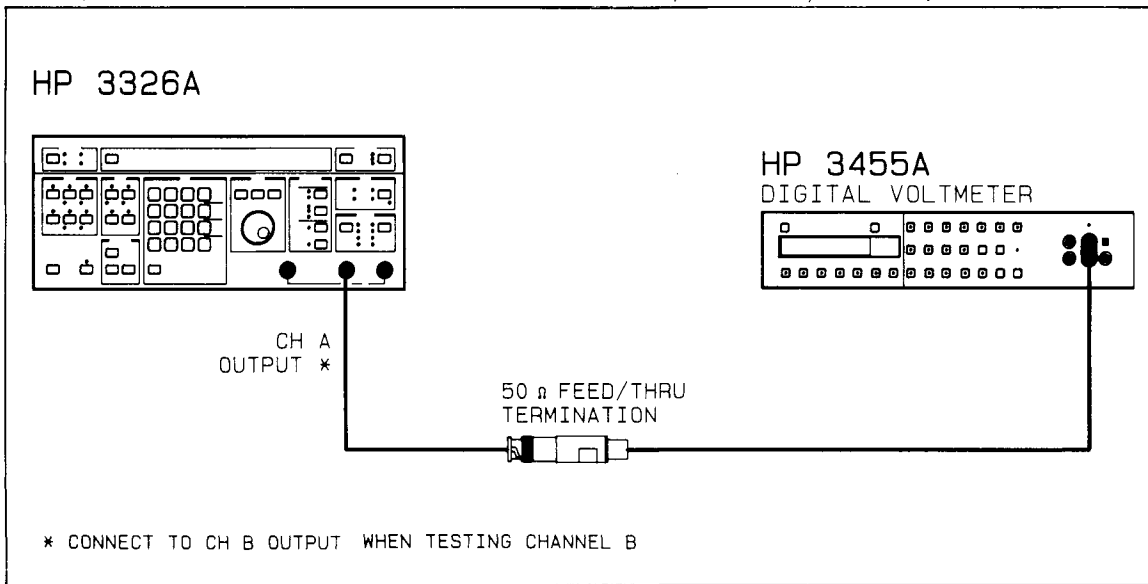

Figure 2-15. DC Offset Accuracy Test
2. Connect the test equipment as follows (illustrated in Figure 2-15):